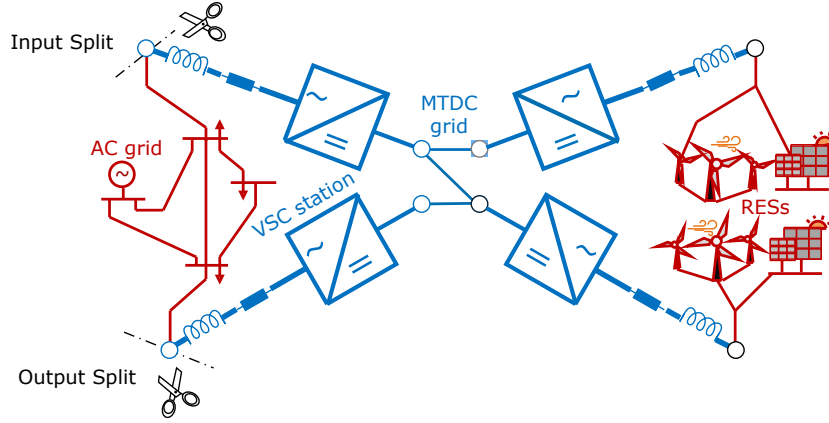

Figure 3.5: Circuit cut.
1. Determine the input and output of the circuit where you want to determine the equivalent impedance, see Fig. 3.5.